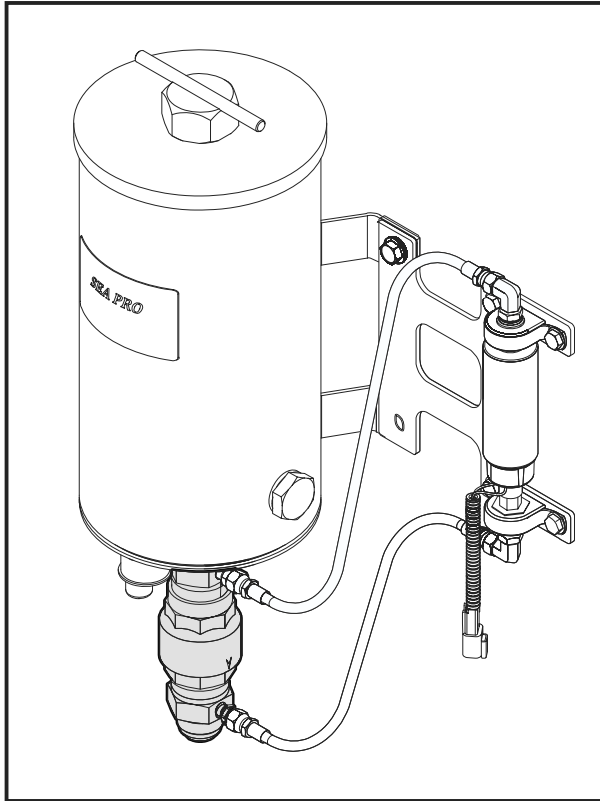
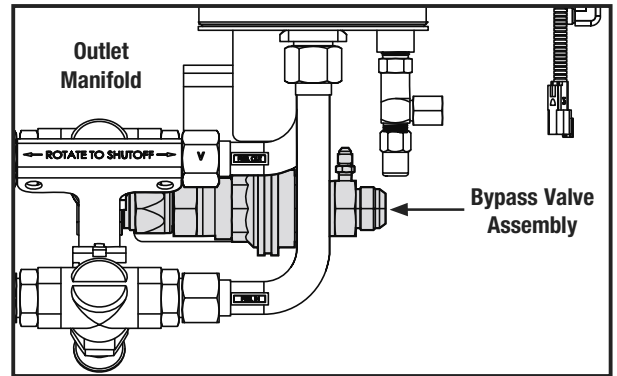

Figure 4 - Attaching the Bypass Single Unit
Figure 6 - Attaching the Bypass Valve (Duplex)
5. Attach the Bypass valve to the fuel outlet fitting (on single units only) or the fuel outlet port (on units with manifolds) See Figure 4.
Note: The directional arrow on the Bypass Valve Must face away from the unit. See Figures 4 and 5.
6. Torque the swivel fitting Bypass Valve to 115 ft-lb (193.0 N•m) for Single units (See Figure 4), or 50 ft-lb (67.8 N•m) for Duplex units. Rotate it to position. See Figure 6.